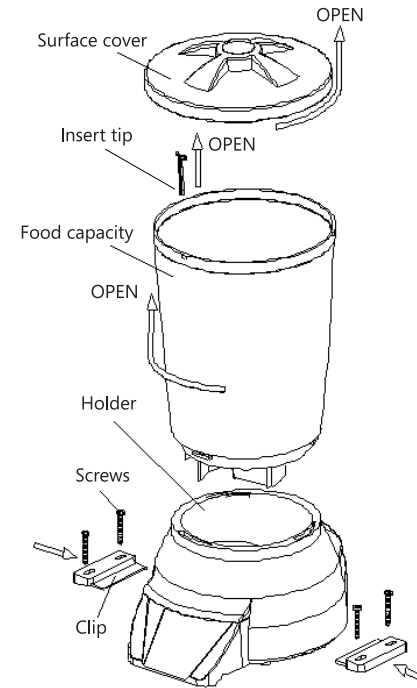

Fig 1
- a. Remove the top cover by count- clockwise rotation, and install by clockwise rotation. Take the insert tip away and rotate the clockwise if you want to removed the food bucket; please pay attention to the stand asymmetry due to the buckle distributing. And then fix the feeder to the pond side with bracket by screw (see fig 1).